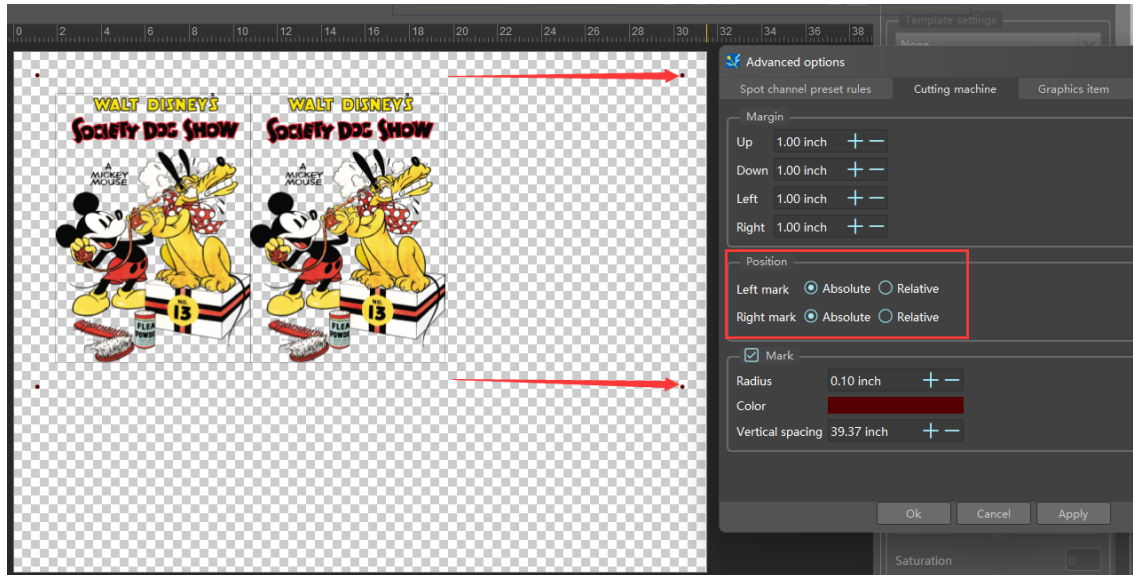

Figure 2.27
(2) Figure 2.27 is the effect of selecting the right locator or mark (Absolute Position).